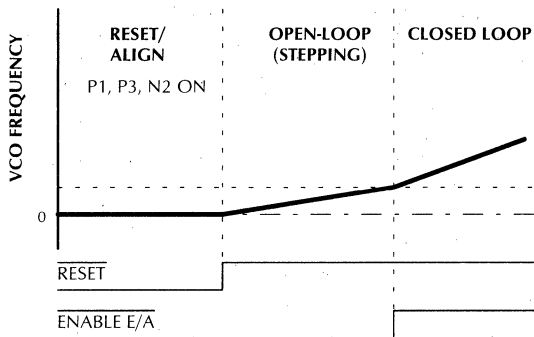

Figure 6. Typical Start-up Sequence
Step 1: The IC is held in reset (state R) with full power applied to the windings (see fig. 6). This aligns the rotor to a position which is 30° (electrical) before the center of the first commutation state.